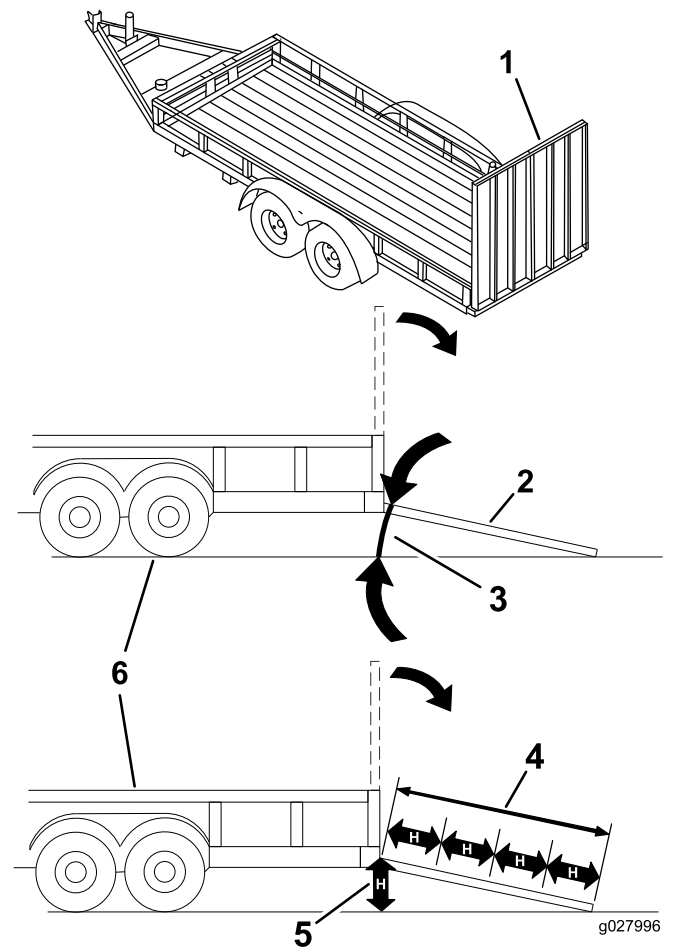

Figure 36
Loading a machine onto a trailer or truck increases the possibility of tip-over and could cause serious injury or death (Figure 36).
3. Lower the ramp, ensuring that the angle between the ramp and the ground does not exceed 15 degrees (Figure 36).
1. Lower the ramp, ensuring that the angle between the ramp and the ground does not exceed 15 degrees (Figure 36).